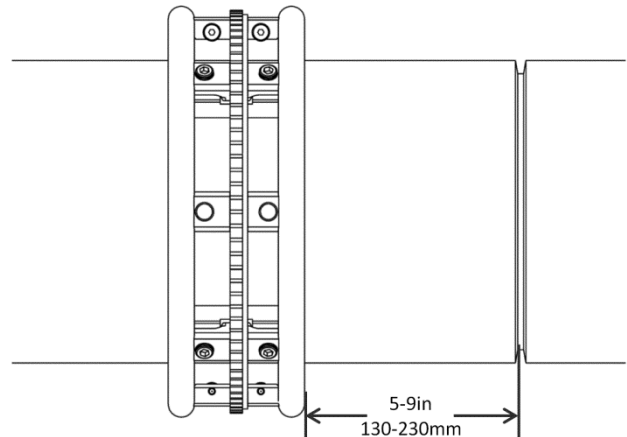

FIGURE 7 – TRACK DISTANCE
6. Position the track ring the desired distance from the weld joint (see Figure 7 – Track Distance). This distance will typically be between 5 and 9 inches (130 – 230 mm).